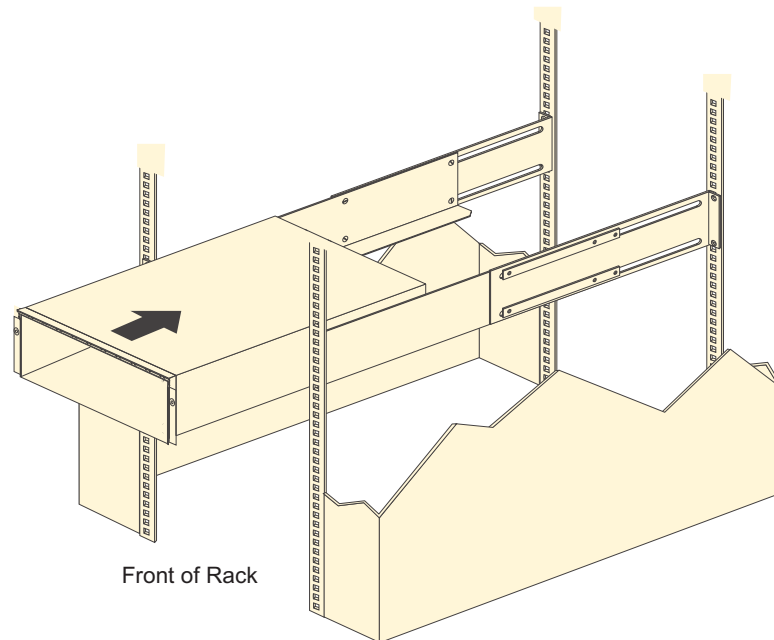

Figure 22. Installing the EXP810
- b. With help from another person, place the back of the storage expansion enclosure on the support rails, and then slide the unit into the rack as shown in Figure 22.